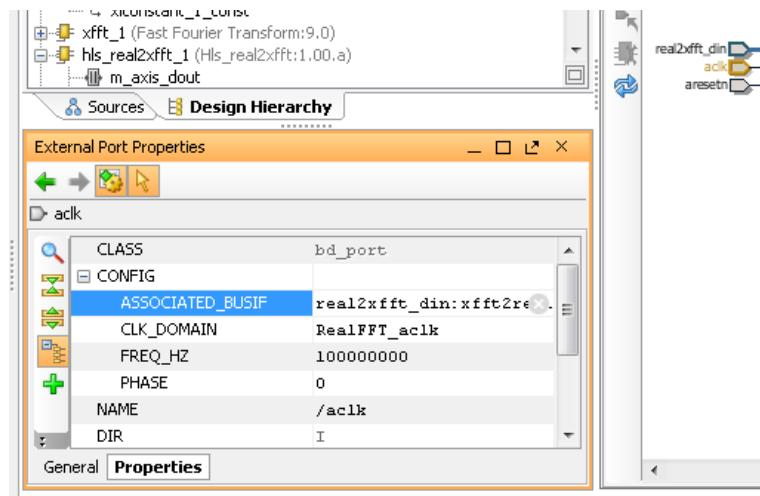

Figure 211 Clock Warnings
- Select the Properties tab in the External Port Properties pane (Figure 211).